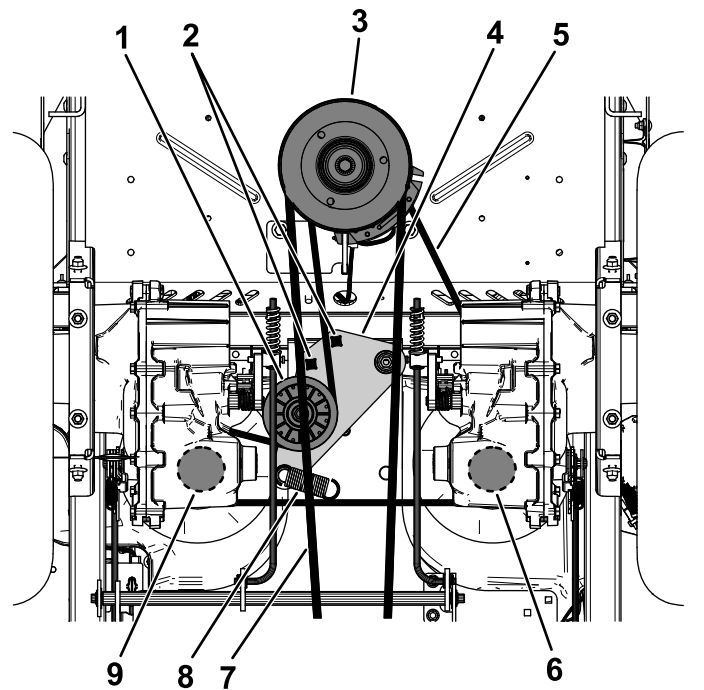

Figure 84
5. Use a 1/2-inch ratchet or breaker bar in one of the square holes in the idler arm to remove tension on the idler spring (Figure 84).
6. Remove the existing belt from the idler pulley, 2 hydraulic-pump-drive pulleys, and engine pulley (Figure 84).
7. Install the new belt around the idler pulley, engine pulley, and 2 hydraulic-pump pulleys (Figure 84).